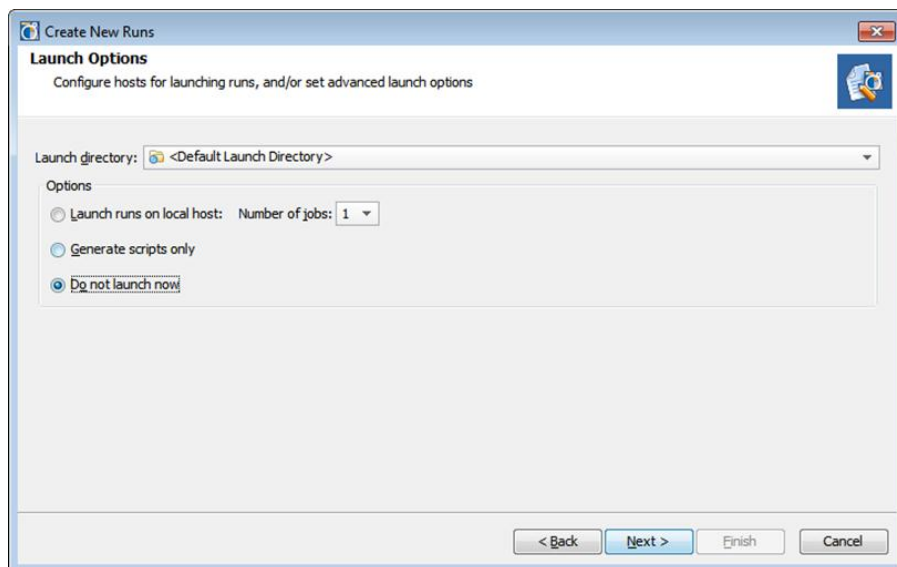

Figure 22: Launch Options
6. Click **Next** to review the **Launch Options** dialog box, as shown in FIGURE 22.